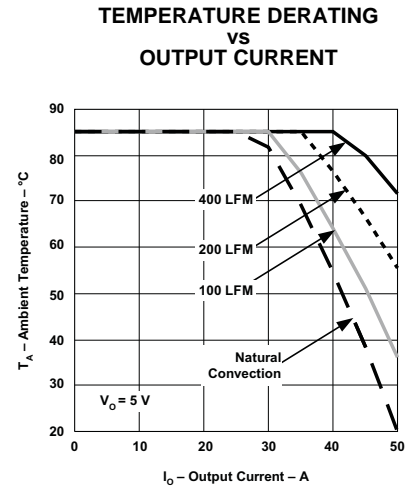
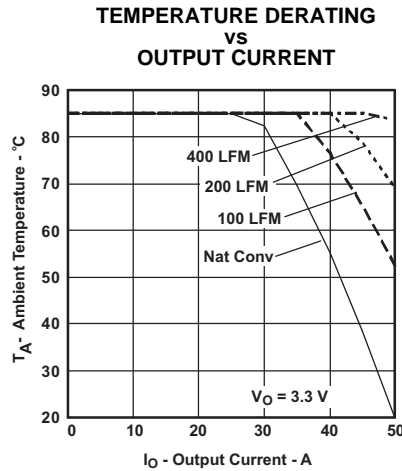

Figure 3.
Figure 4.
- (2) The temperature derating curves represent the conditions at which internal components are at or below the manufacturer's maximum operating temperatures. Derating limits apply to modules soldered directly to a 4-inch x 4-inch, double-sided PCB with 1-oz. copper. For surface mount packages (AS and AZ suffix), multiple vias (plated through holes) are required to add thermal paths around the power pins. Please refer to the mechanical specification for more information. Applies to Figure 3, Figure 4, and Figure 5.